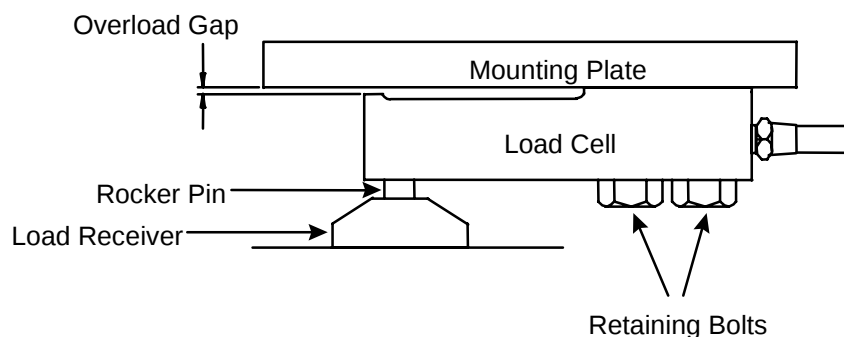

Figure 4-5: Load Cell in HD Scale Base
5. Check the overload gap setting (see Figure 4-5 and Table 4-2).